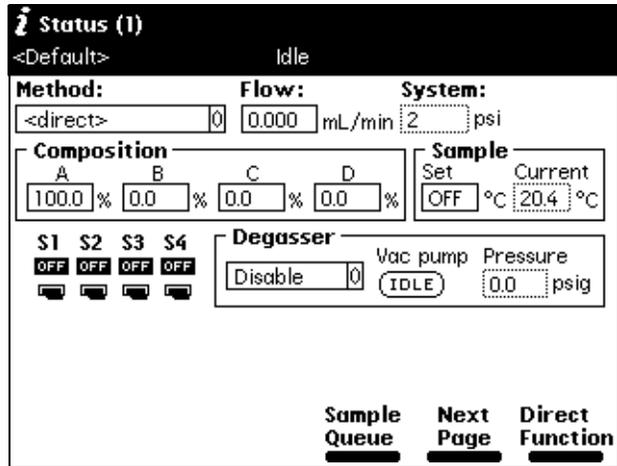
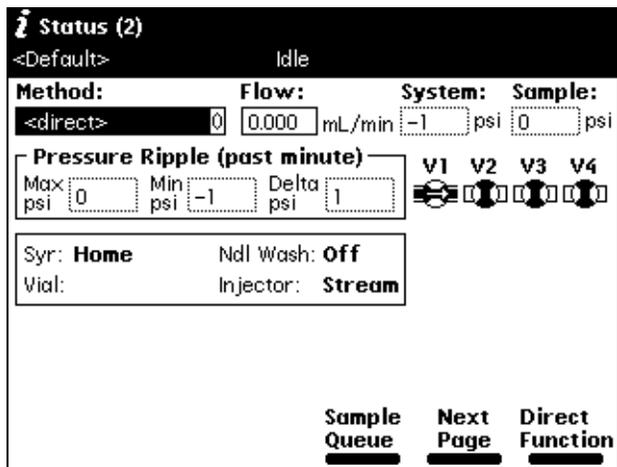

Figure 3-2 First Page of Status Screen
Figure 3-3 Second Page of Status Screen
You perform direct control runs from the Status screen (Figure 3-2 and Figure 3-3). The fields in the Status screen indicate the status or values of the current operating parameters, as described in Table 3-1. The Status screen also allows you to enter new values for certain parameters.
Press the **Next Page** screen key to display the second page of the Status screen (Figure 3-3).
1. Press the **Menu/Status** key (if necessary) to display the Status screen (Figure 3-2).